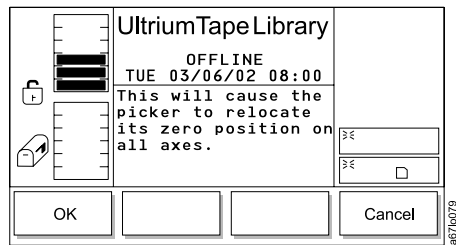

Figure 318. Home Dialog
- Press the button below the **Home** softkey. The Home Dialog displays (see Figure 318 on page 213) with a message stating that the picker will relocate to its zero position on all axes.